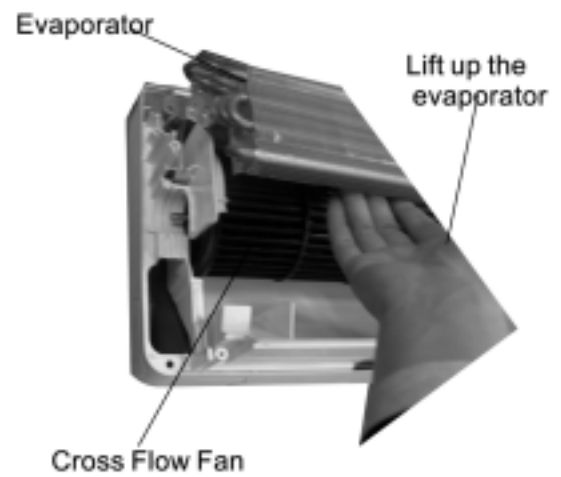

Fig 9
6. Lift up the evaporator and remove the cross flow fan. (Fig 9 )